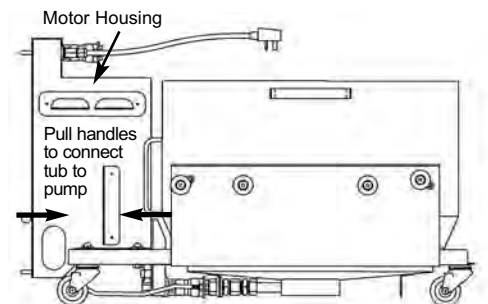

FIGURE 2.
See Figure 2
2. Tub to motor connection (See Fig. 2)